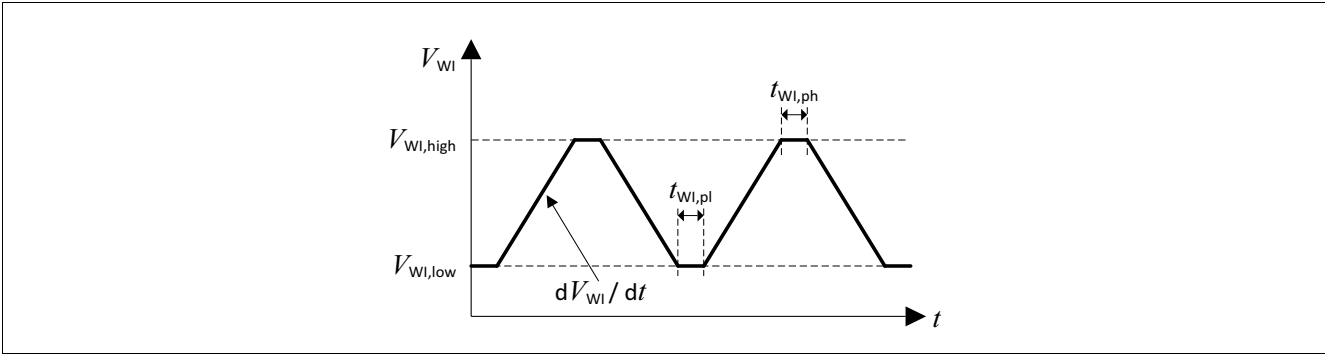

Figure 9 Test pulses watchdog input WI
The watchdog is triggered by a falling edge at the watchdog input pin “WI”. The amplitude and slope of this signal has to comply with the specification (Watchdog input WI). For details regarding test pulses, see Figure 9.
1) For details on applied test pulse, see Figure 9.